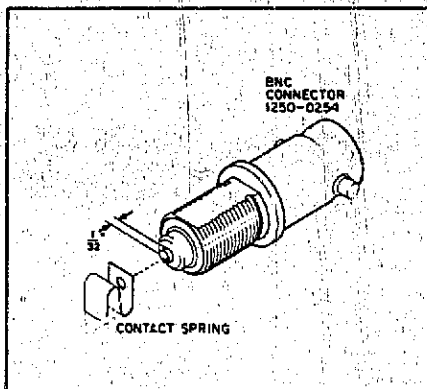

Figure 8. Option 002 BNC Assembly
- Cut center conductor lead to approximately 1/32 inch (refer to Figure 8).